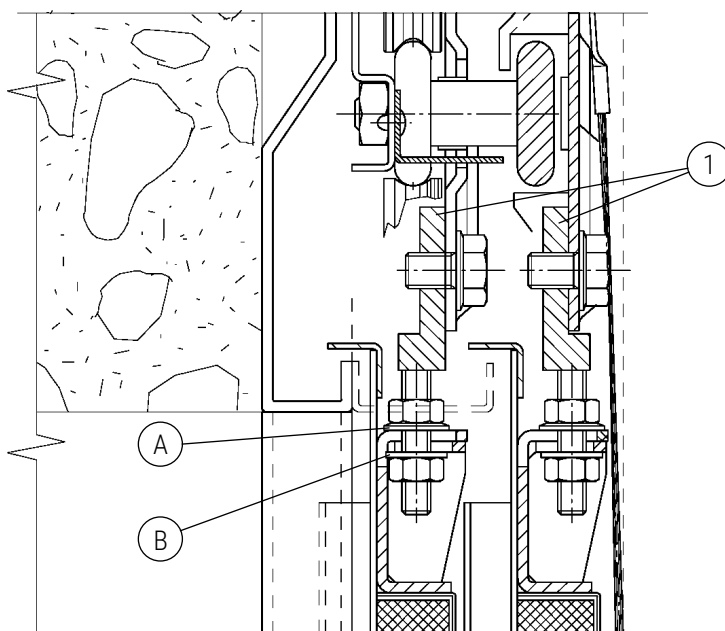

Fig. 5
Type 11/R-L Fire test: place the panel (1) fixing bolts as shown on fig.5.